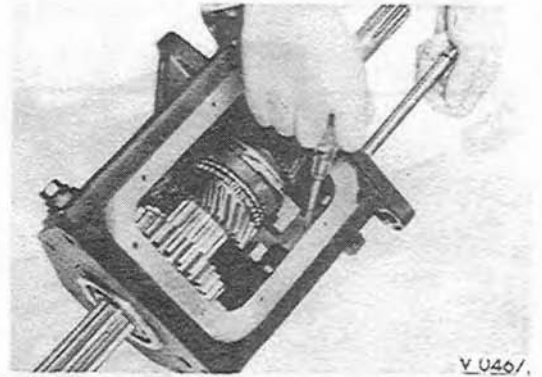

Fig. 3-49. Installing the gear shift fork shaft in the transmission case.
- Put in place the high speed gear shift fork and the low speed gear shift fork. Insert the gear shift fork lock ball and spring in each fork hole. Install the gear shift fork shaft pushing down on the ball with a screw driver in the case from the front. (Fig. 3-49) Do not damage the "O" ring at the front end of the shaft.